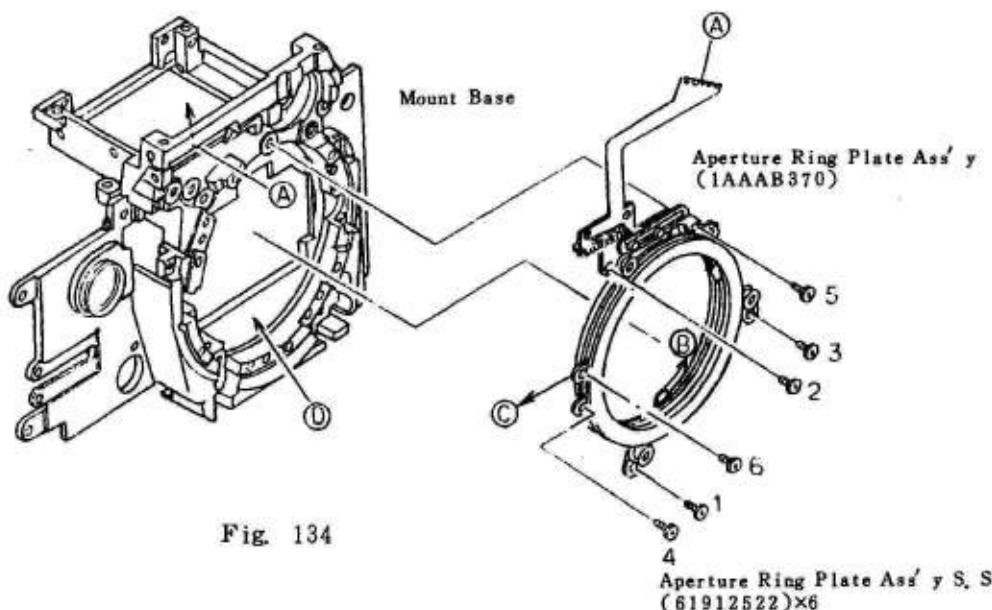

Fig. 134
1. Insert ④ of the open signal FPC from the side ① in the Mount Base and install the Aperture Ring of the Aperture Ring Plate Ass'y (1AAAB370) in the direction indicated by the arrow ② (open direction).
2. Tighten the Aperture Ring Plate Ass'y Setscrews (61912522)×6. (See Fig. 134)
- a) Move to the left (in the direction of the arrow ③) and install the Aperture Ring Plate Ass'y, and tighten the Aperture Ring Plate Ass'y Setscrews in the order of ① through ⑥. (See Fig. 134)
- c) Take care not to scratch the ⑦ part of the Mount Base. (See Fig. 134)